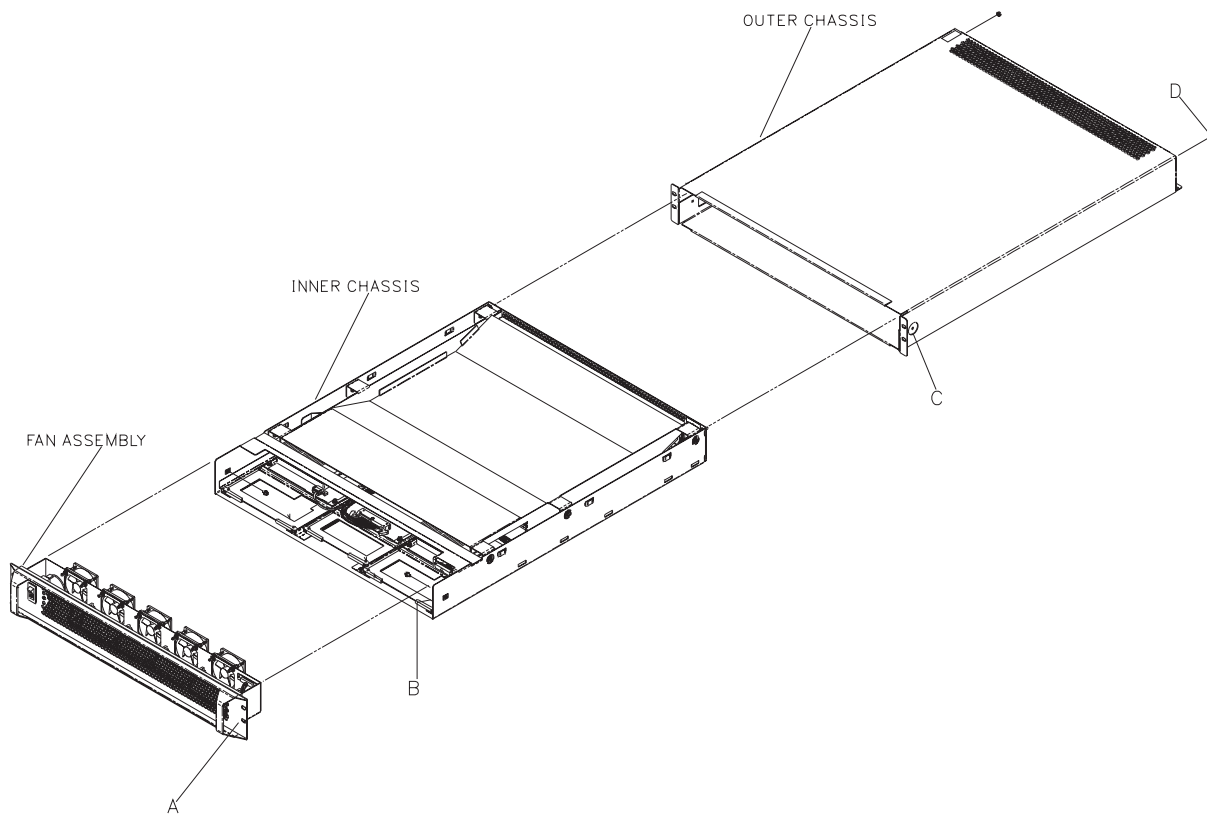
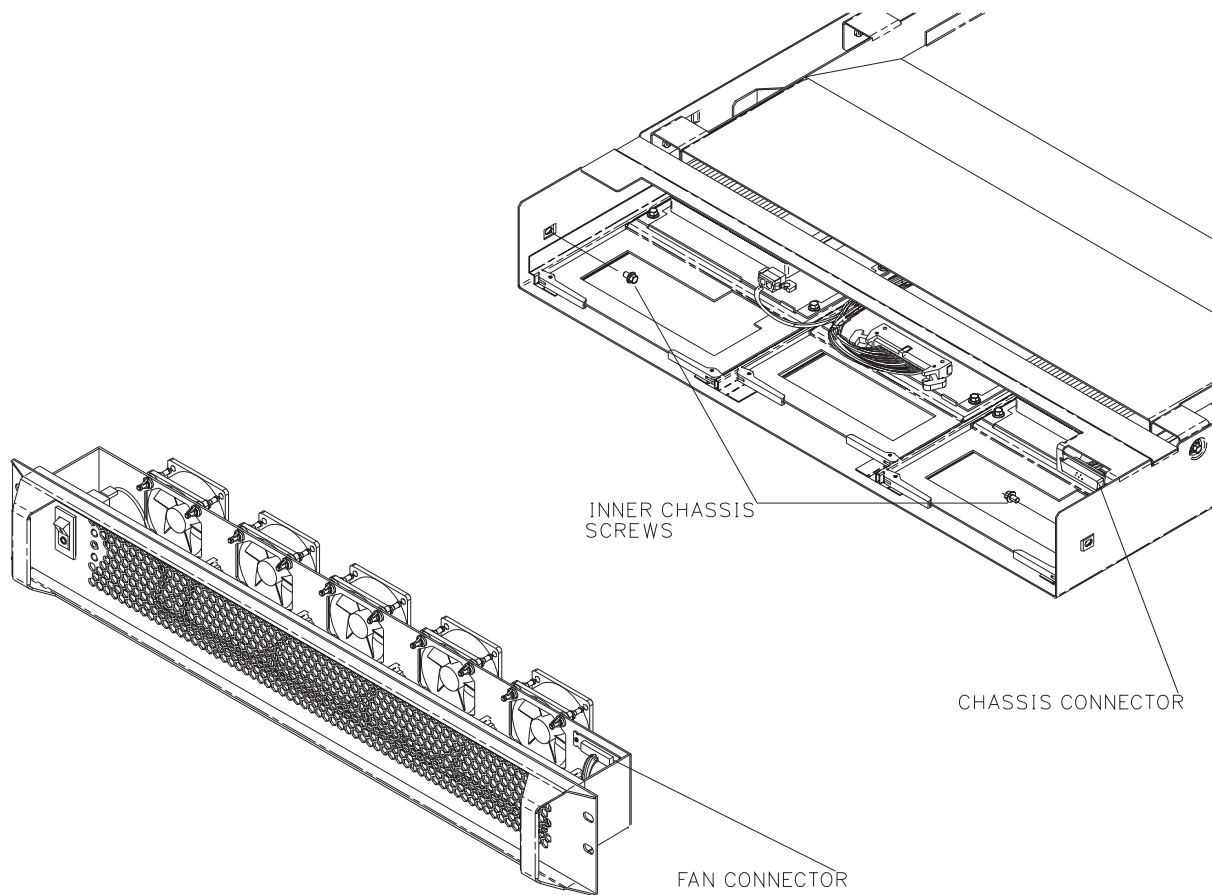

Figure C-11. Disassembling the SPS
Figure C-12. Reinstalling the SPS Fan Assembly
10. Remove nut clips from each side of the outer chassis. See Figure C-11 on page C-22, **point C**.
11. Remove the four screws from the front of the SPS assembly and remove fan assembly. See Figure C-11 on page C-22, **point A**.
18. Remove the four screws from the front of the assembly and remove fan assembly. See Figure C-11 on page C-22, **point A**.
19. Remove nut clips from each side of the outer chassis. See Figure C-11 on page C-22, **point C**.
21. Remove the two nuts from the rear of the outer chassis. See Figure C-11 on page C-22, **point D**. Save for reinstallation.
22. Remove the two screws from inside of inner chassis. See Figure C-11 on page C-22, **point B**, and Figure C-12 on page C-23. Save for reinstallation.
23. To remove the inner chassis, push the inner chassis from the rear of the outer chassis and set inner chassis aside. See Figure C-11 on page C-22.
28. Locate connector inside of fan and inner chassis. See Figure C-12 on page C-23.